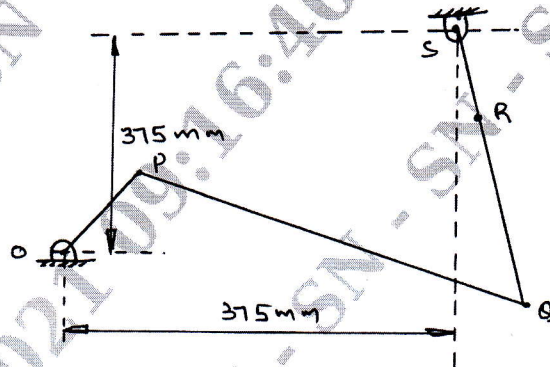

Fig. Q3
- Fig. Q3, shows a mechanism in which dimensions of various links are as follows :